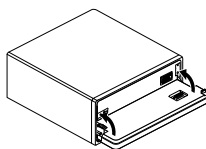

Fig. 14
3. Flip the holders into upright positions. (Fig. 14)